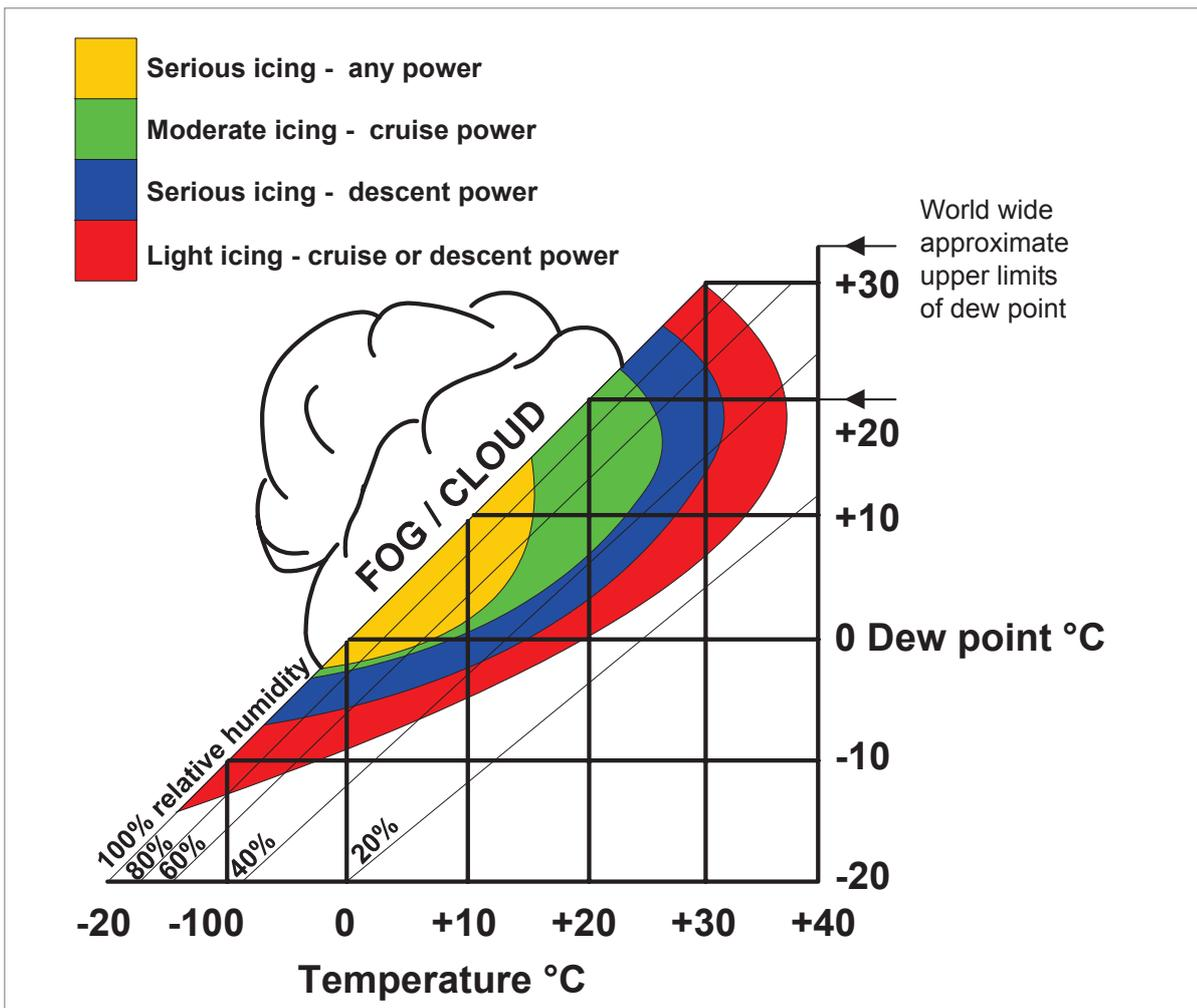

Figure 9.1
Atmospheric conditions, particularly of high humidity (more than 50% Relative Humidity (RH) and temperatures ranging from  $-7^{\circ}\text{C}$  ( $20^{\circ}\text{F}$ ) to as high as  $+33^{\circ}\text{C}$  ( $90^{\circ}\text{F}$ ), may cause icing in the induction system of all types of piston engine. *Figure 9.1* shows the range of temperatures at which icing can affect the engine at different power settings.